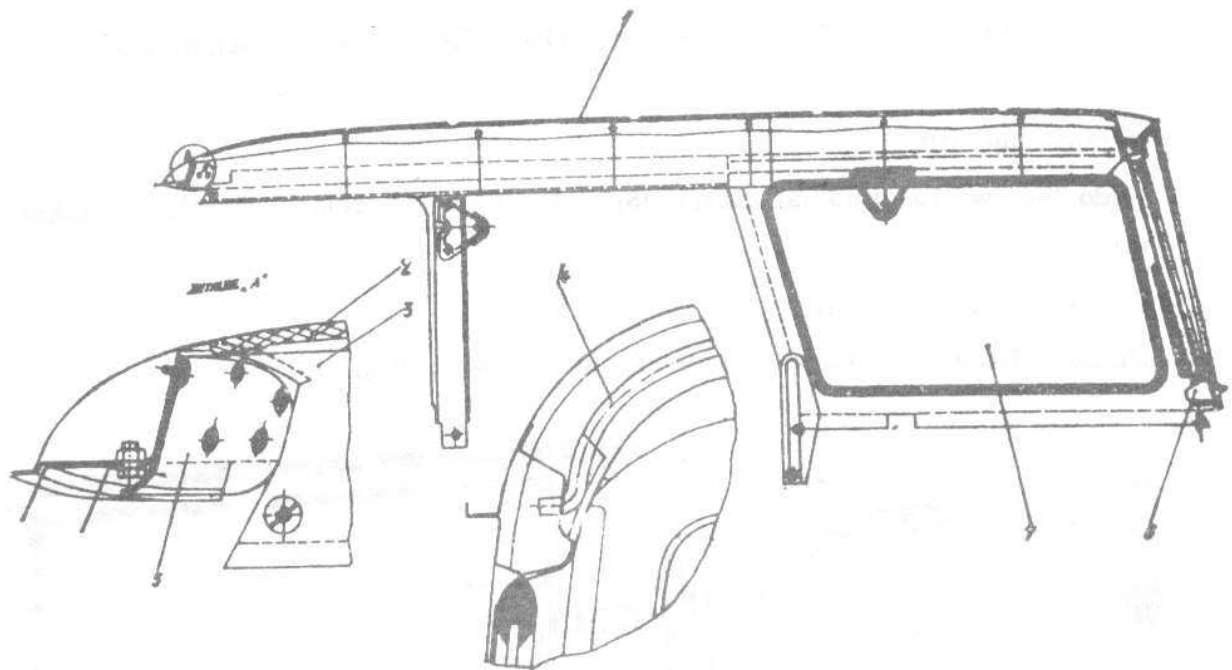

Fig. 4.167. METALLIC SUPERSTRUCTURE ASSY
- Remove upholstery (3) - see Fig. 4.167 -, after having removed the tensioners (5); remove then the rods (4) from their locations.
- Detach the felt insulating screens (2) from the superstructure.
- Take down the superstructure (1) from the body, by unscrewing the fastening bolts.